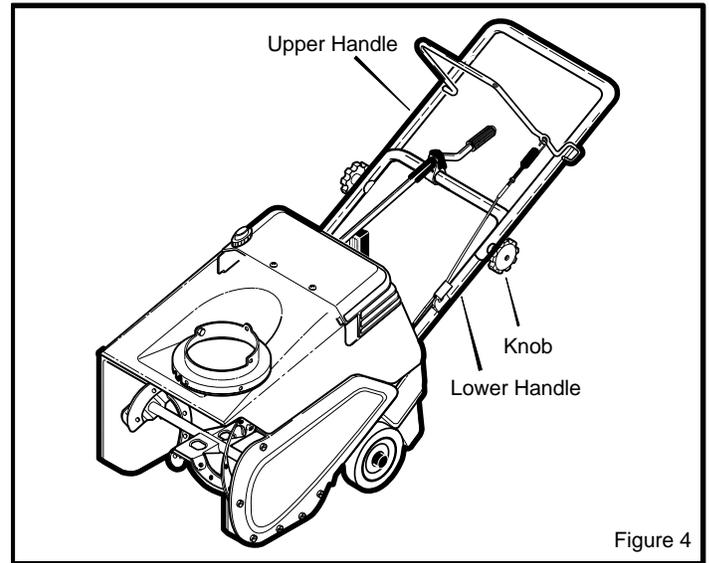

Figure 4
3. Raise the upper **handle** to the operating position (see Figure 4). Hold the upper **handle** apart to prevent scratching the lower handle.